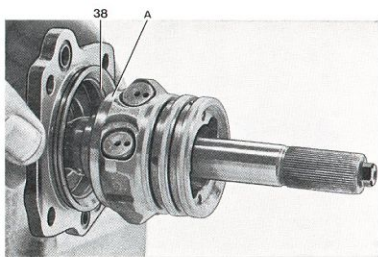
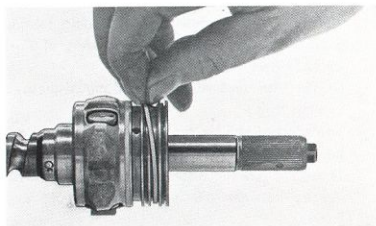

Fig. 6-89. Checking packing
Fig. 6-88. Fitting packing
- Place the O-rings (63, 65 and 67) in the grooves on the worm. Carefully fit the packings (62, 64 and 66) in position on top of the O-rings, starting with the inner one (see Fig. 6-88).
- Place the O-ring (37) in position in the cover (30). A 1.7 mm (0.067") packing (38) is placed on the O-ring.
Apply marking colour to the contact surface (A) and fit the worm (Fig. 6-89). Rotate the worm. Lift it out and check its contact against the packing. If the worm has not made a perfectly satisfactory sealing against the packing, replace the packing with a 1.8 mm (0.071") one.